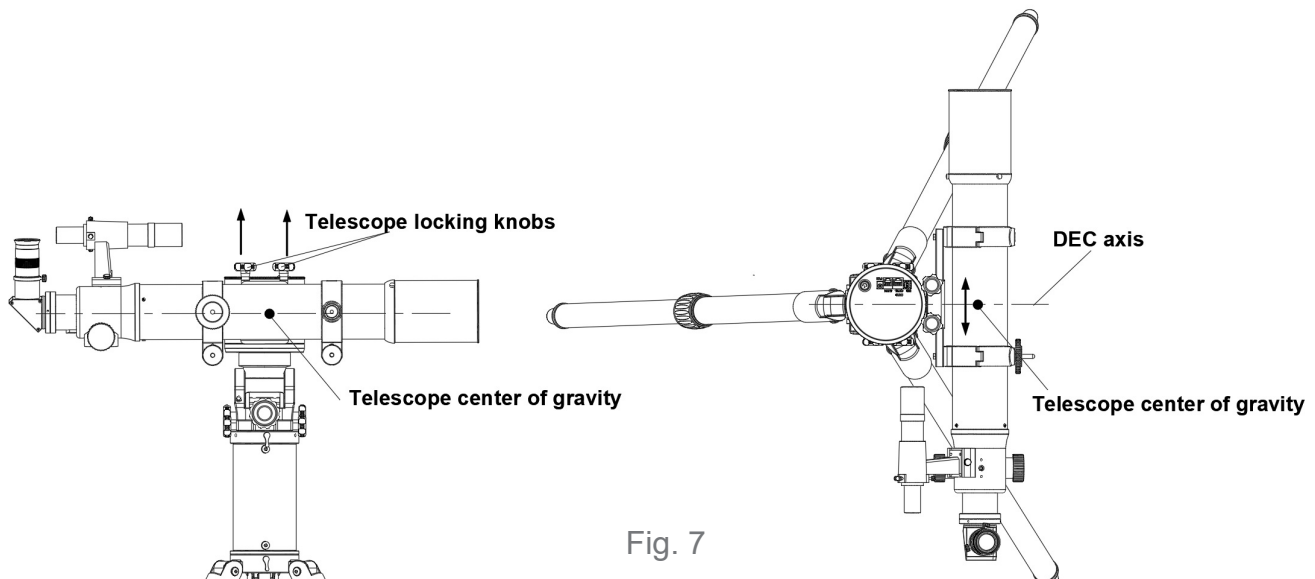

Fig. 7
- \* Use the SynScan Pro app to slew the two axes and level the telescope with the telescope locking knobs on the upper side.(Fig.7)
- \* Adjust the position of the telescope (by shifting the dovetail in the clamp or by shifting the telescope in the tube rings) to maintain balance of the telescope around the DEC axis(Fig.7~Fig.8)